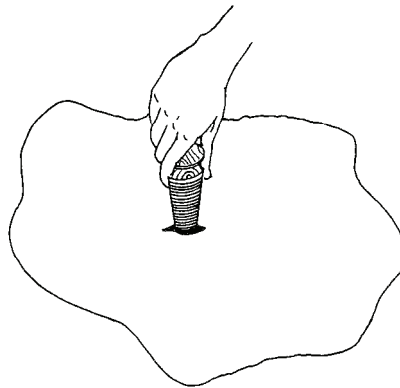

Figure 1. Wood Plug Repair of Collapsible Fabric Tank.
- b. Emergency repair items consist of two (2) sizes of wood plugs and three (3) sizes of sealing clamps.
- a. In emergencies, as an immediate temporary measure, the wood plugs may be used for sealing small holes, tears, or punctures. Refer to Figure 1.